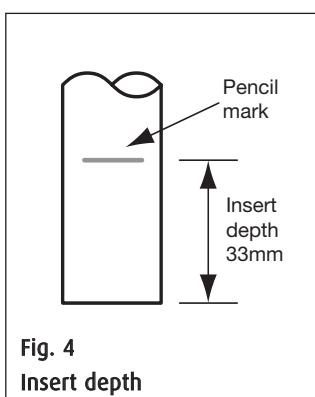

Fig. 4
- Make sure each hose connection is fully inserted into the inlet and outlet ports of the pump. When connecting to the pump hoses, make sure connecting pipe is fully inserted to a minimum depth of 33mm (1¹/₄). Failure to fully insert connections will cause leaks (See Fig.4)